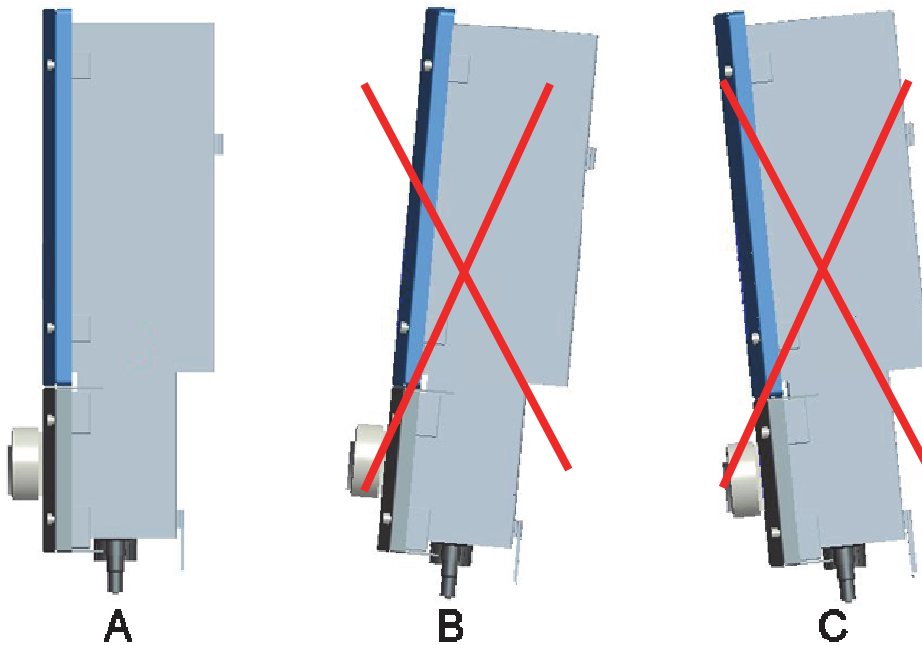

Figure 4-1 Digiwatts unit mounting positions
- If the inverter is installed outside, it should be mounted vertically (see Figure 4-1).